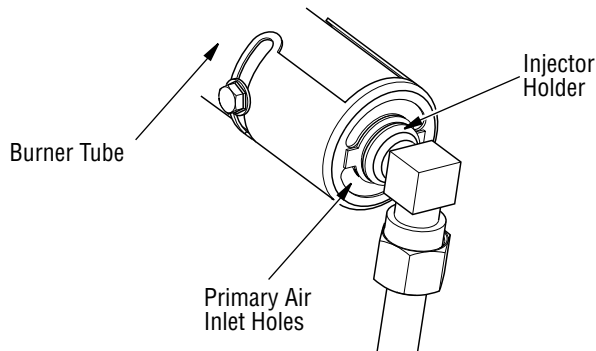

Figure 30 - Injector Holder On Outlet Burner Tube
2. Inspect burner, pilot and primary air inlet holes on injector holder for dust and dirt (see **Figure 30, Page 18**).